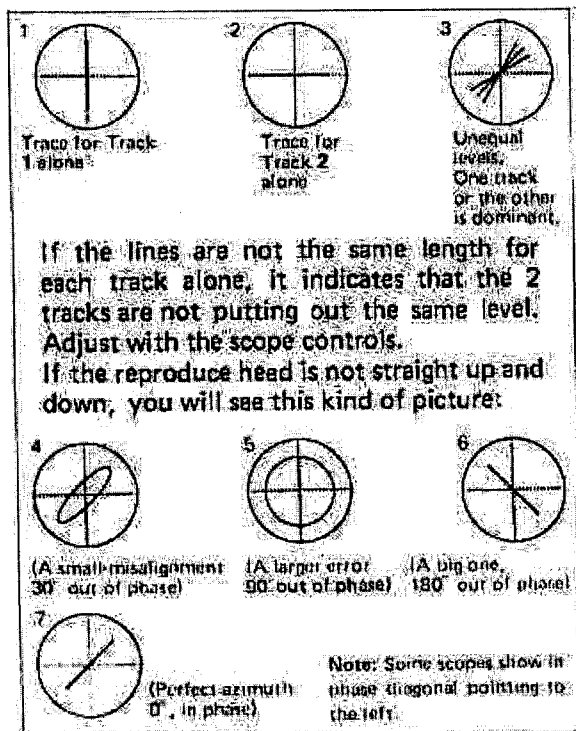

Fig. 9-5-7: Phase Shift
5. Load the reproduce alignment test tape to reproduce at a low speed of 7-1/2 ips. (19 cm/sec.). A scope display showing phase relations between both channels will be obtained as shown in Fig. 9-5-7.